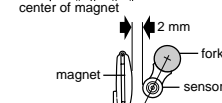

Fig.8
2. A 2mm clearance shall be kept between the sensor and the magnet. (Fig.8)